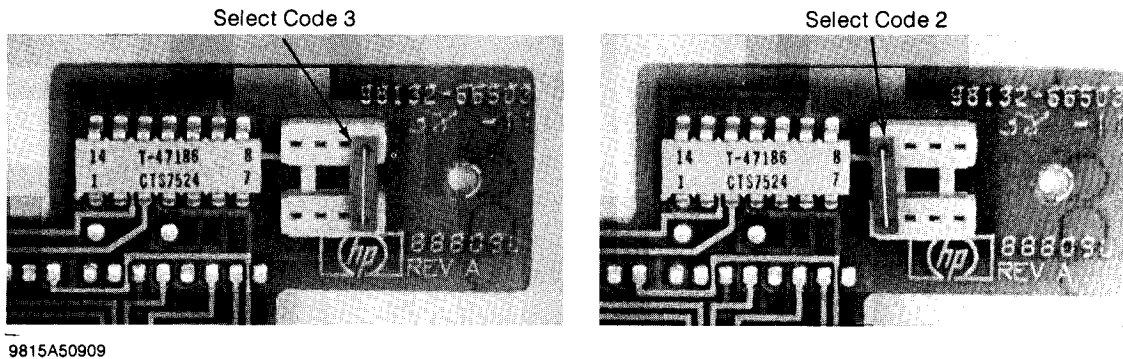

Figure 4. Interface Select Code (option 15)
3. Locate the select code plug (see Figure 4), and move it to its alternate position.